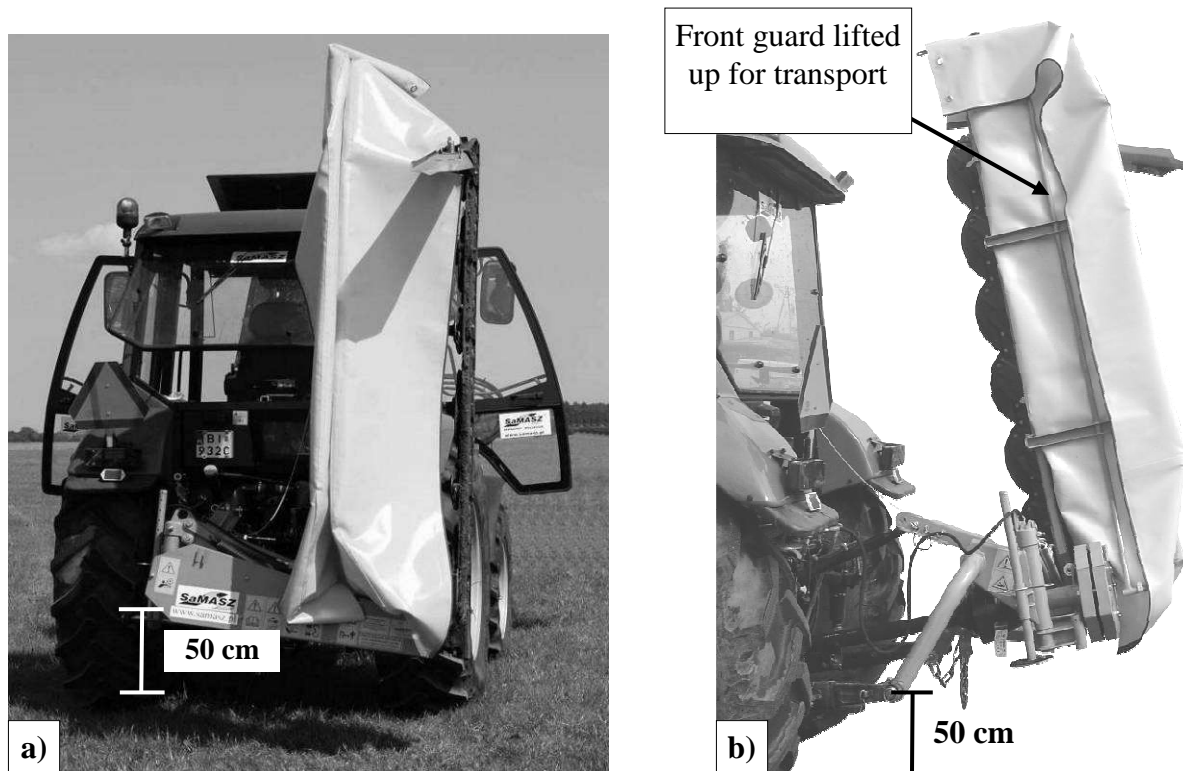

Fig. 13. Transport position
- ❑ lift the mower with tractor hydraulic lift onto the tractor links until the lower lift pins of the mower 3-point linkage frame are raised about 50 cm above the ground (**Fig. 13**),
- ❑ lower the mower onto the tractor's 3-point linkage until the suspension pins of the frame are at height max. of 40 cm above the ground (**Fig. 13**),